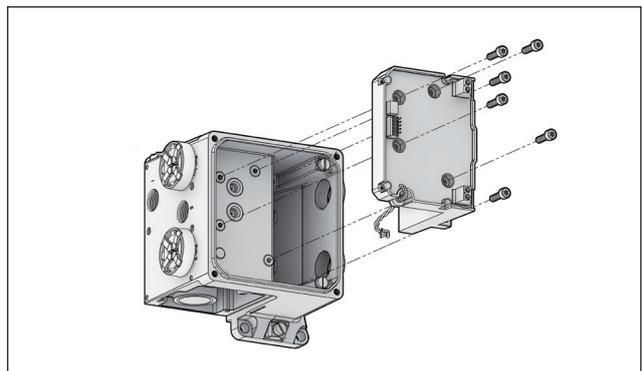
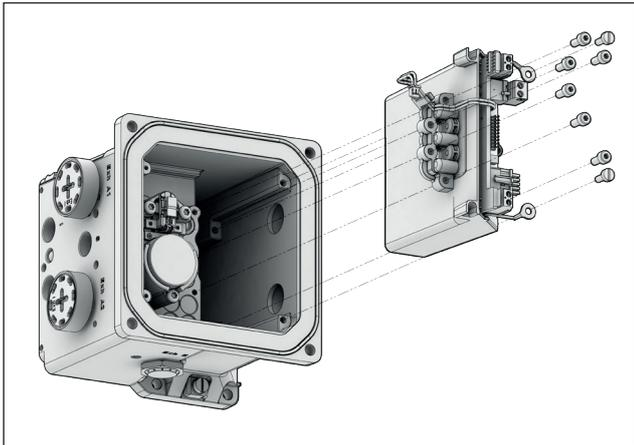

Fig. 111. NDX_510_
Fig. 112. NDX_511_ and NDX_512_
- Loosen the electronics module screws and grounding screws, then remove the electronics module. (Fig 111, Fig 112)